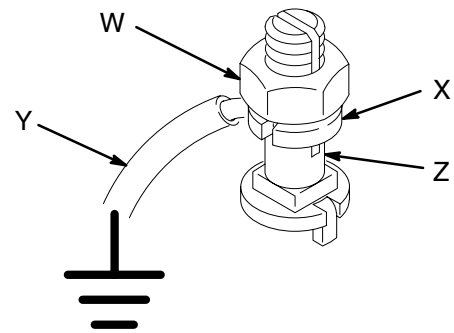

Fig. 1
1. *Pump:* use a ground wire and clamp as shown in Fig. 1. Loosen the grounding lug locknut (W) and washer (X). Insert one end of a 12 ga (1.5 mm²) minimum ground wire (Y) into the slot in lug (Z) and tighten the locknut securely. Connect the other end of the wire to a true earth ground. Order Part No. 237569 Grounding Clamp and Wire.